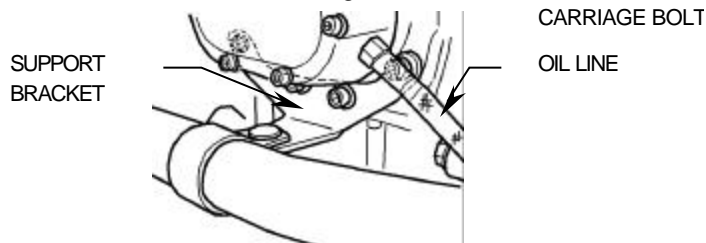

FIGURE 1
5. Place your motorcycle on the sidestand. Remove the front headpipe support bracket by removing the engine oil filler cover and clutch release cover; these must be removed to access the bolts retaining the stock bracket. A small amount of oil may leak out as the cover is removed (If the motorcycle's suspension has been lowered or the sidestand modified you may want to drain the engine/transmission oil before removing the covers). Remove the four bolts securing the stock front headpipe support bracket, note which bolts go where if any are longer than the others. Install the supplied support bracket with the stock mounting bolts and tighten to factory specifications, see Figure 1.